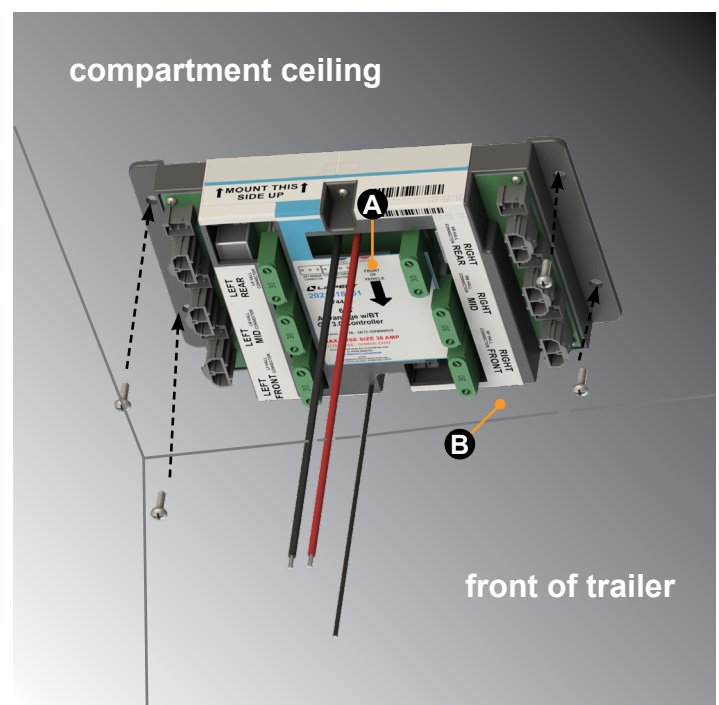

Fig.21
NOTE: For optimal performance, the controller should be positioned directly in the center of the trailer, but may be offset if necessary (Fig.21). The arrow on the label of the controller must point to the front of the trailer (Fig.21A).
1. Measure to the center of the trailer from inside the compartment where the controller will be placed, and mark the center point on the ceiling. The controller must be positioned directly in the center of the trailer with the arrow on the label of the controller facing the front of the trailer. (Fig.21).